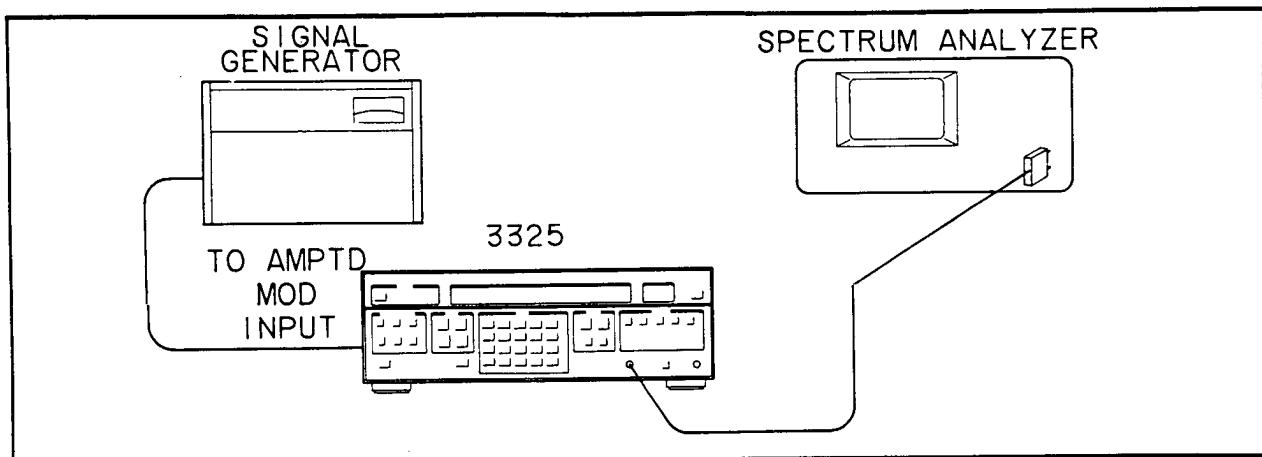

Figure 4-9. AM Envelope Distortion.
- Connect the equipment as shown in figure 4-9.